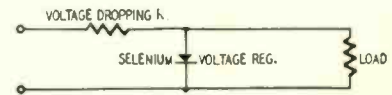
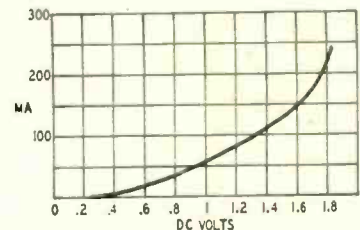

Fig. 3—Circuit shows selenium regulator used with voltage-dropping resistor.
Fig. 4—The forward characteristic of type D-568 selenium regulator.
In operation, the selenium regulator is shunted across the load, with a voltage-dropping resistor in series with the source voltage and load as shown in Fig. 3. Regulation is obtained by using the forward characteristic shown in Fig. 4. When the regulator is connected in this manner, the voltage across the voltage-dropping resistor (R) varies inversely with changing load current, and the desired voltage is maintained.